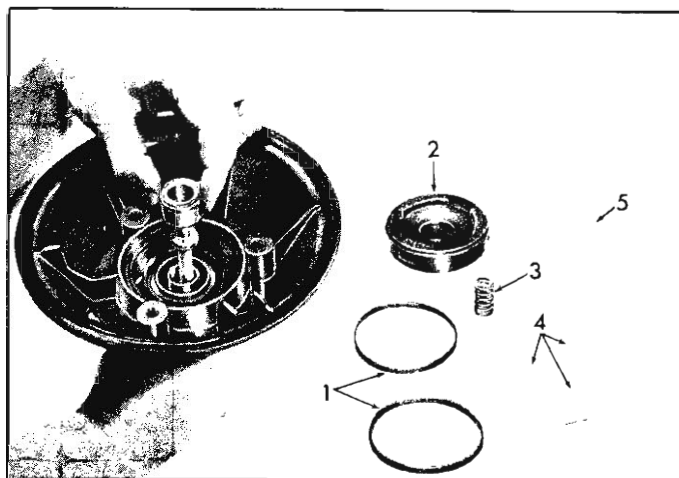

Fig. 15—Removing Air Valve Push Rod Assembly
10. Lift air valve and push rod assembly (fig. 15) from power piston and remove snubber and "O" ring from air valve.
9. Install "O" ring and snubber on air valve, and position push rod through floating control valve and into piston extension so that push rod passes through the loading slot in extension (fig. 15).